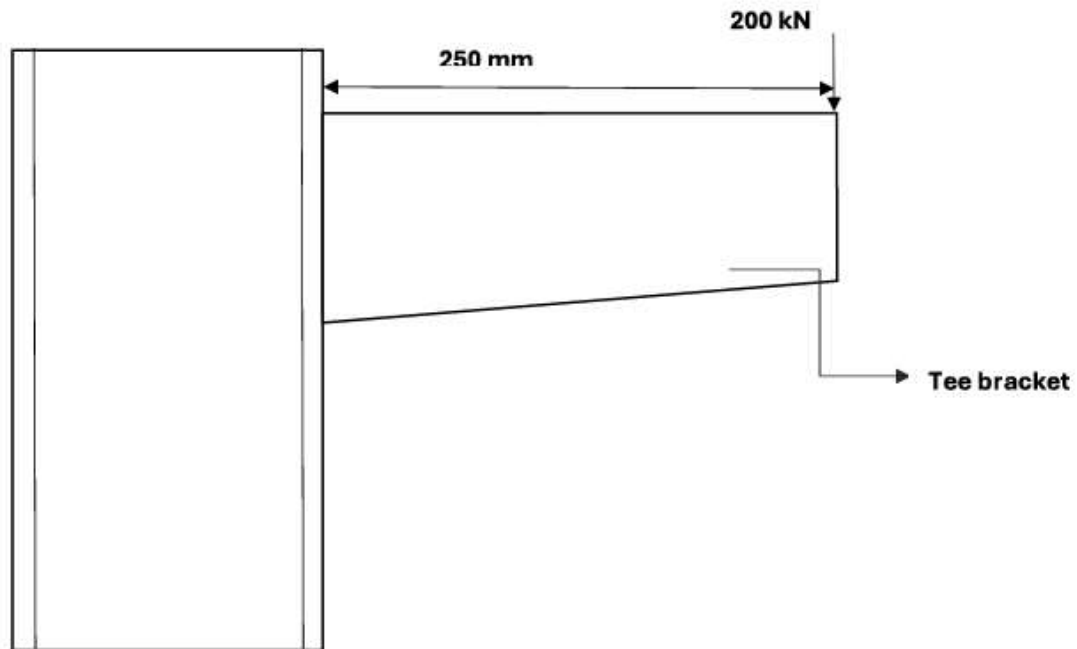

Fig 2
2. Design a bracket connection to transfer an end reaction of 200 kN due to factored load as shown in Fig.2. The end reaction from the girder acts at an eccentricity of 250 mm from the face of the column flange. Design the bolted joint connecting the Tee-flange with the column flange. Steel is of grade 410 and bolts of grade 4.6